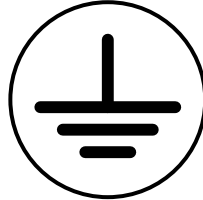

Figure 3–2. – Protective Earth (ground) Symbol to IEC 60417 (Symbol 5019)
- If this value is not achieved then the module must be separately earthed via the M10 earth terminal at the lower front face of the modules. The M10 earth terminal is identified on the module by the symbol shown in Figure 3–2.